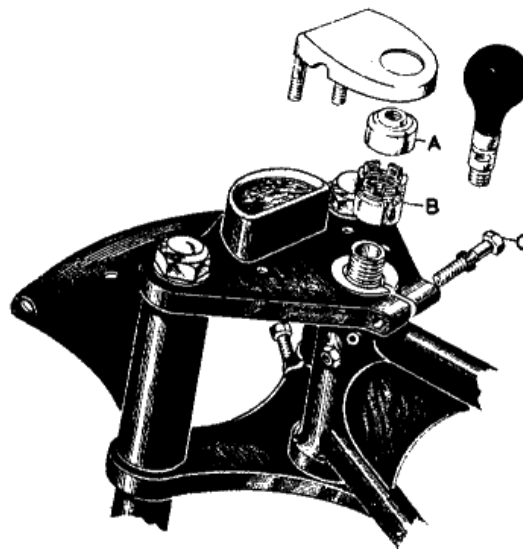

Fig. D29.
The fork can be completely assembled and all the nuts fully tightened before the steering head adjustment is carried out. The fork should be assembled so that the headlamp cowl tubes are held firmly between the top and bottom fork yokes, with the rubber washers at the lower end of the tubes and the steel washers on top. The fork nuts can then be fully tightened with the exception of the stem nuts and the pinch bolt at the rear of the top yoke. The castellated sleeve nut (B) Fig. D29, should then be screwed down with the aid of Service Tool, part number 61-3002, or other similar tool until the forks rotate freely but without up and down play. Tighten the pinch bolt nut (C) to secure the sleeve nut and replace the top cap (A). Check that the bearing adjustment is still correct and replace the handlebar assembly.